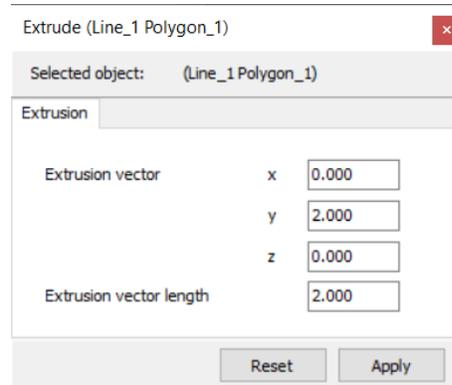

Figure 88: Extrusion window
5.  Click the **Extrude object** button. Assign a value of 2 to the y-component of the extrusion vector as shown Figure 88 (on page 114) and click **Apply**.